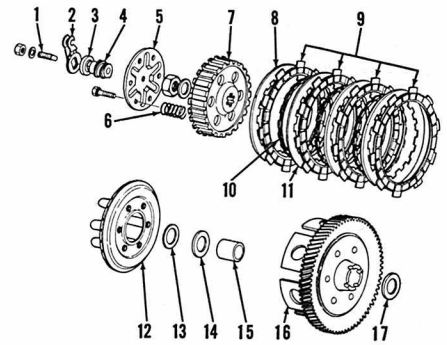
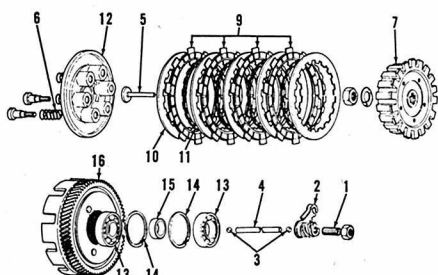

Fig. Y3-16—Exploded view of clutch used on 100cc models. Refer to Fig. Y3-17 for 125cc models.
Fig. Y3-17—Exploded view of clutch used on YA-6 models.
**CLUTCH.** Refer to Fig. Y3-16 for clutch used on 100cc models or Fig. Y3-17 for clutch used on 125cc models. The clutch is mounted on the right end of the transmission input shaft on all models.
Standard thickness of friction discs (9—Fig. Y3-16 or Y3-17) is 0.138 inch (3.5MM) for 100cc models, 0.157 inch (4.0MM) for 125cc models. Friction
Be sure that separator rings (11—Fig. Y3-16 or Y3-17) are not twisted when installed.